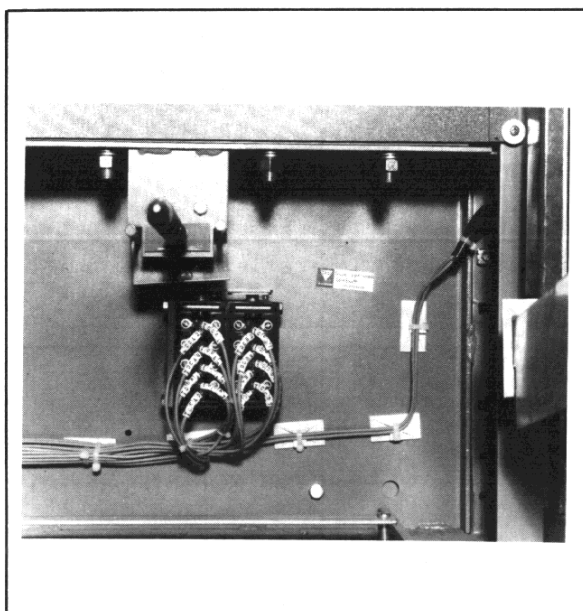

Figure 1-7
1.2.4 Truck Operated Cell Switch (Figure 1-7)